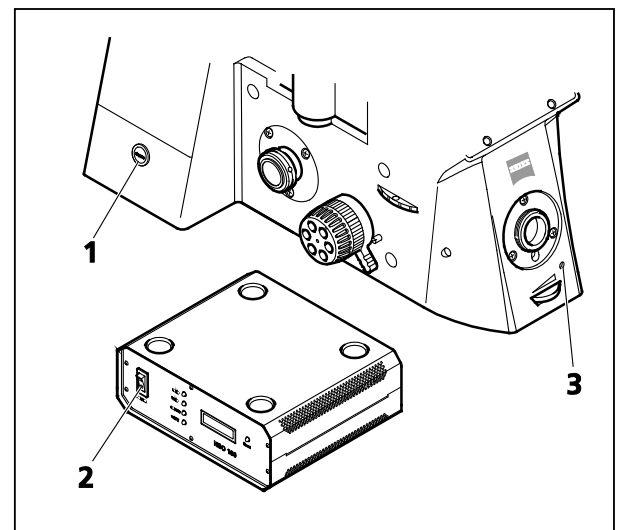

Fig. 48 Axio Observer and power supply unit (ballast unit) for HBO 100
- Switch the microscope on and off using the power switch (on the left of the stand, Fig. 48/1).
- Switch the microscope on and off using the standby button (Fig. 48/1).
- Start up the microscope using the standby button (on the left of the stand, Fig. 48/1).
The monitoring LED (Fig. 48/3) lights up when the microscope is switched on.
- If a fluorescence illuminator (e.g. HBO 100) is connected, switch the power supply unit on (Fig. 48/2) and off using the power switch.